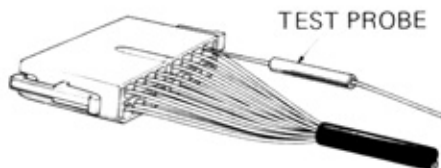

Fig. 2 Inserting tester probe
- In checking the continuity or voltage with a circuit tester, always insert the tester probe from the wire harness side as shown in Fig. 2. Never insert from the receptacle side as the connector insertion fit will be enlarged and may cause defective contact.